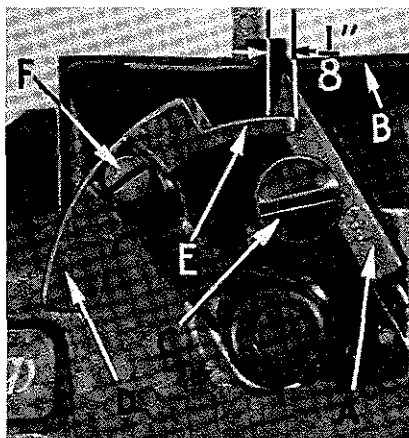

Fig. 7
The stationary knife (A, Fig. 7) should be set so that its top edge is even with the lower side of the throat plate (B).
The movable knife (D, Fig. 7) should be set so that in its entire arc of travel, it just clears the throat plate and so that in its open position its pilot (E) overlaps the stationary knife by $1/8$ inch.